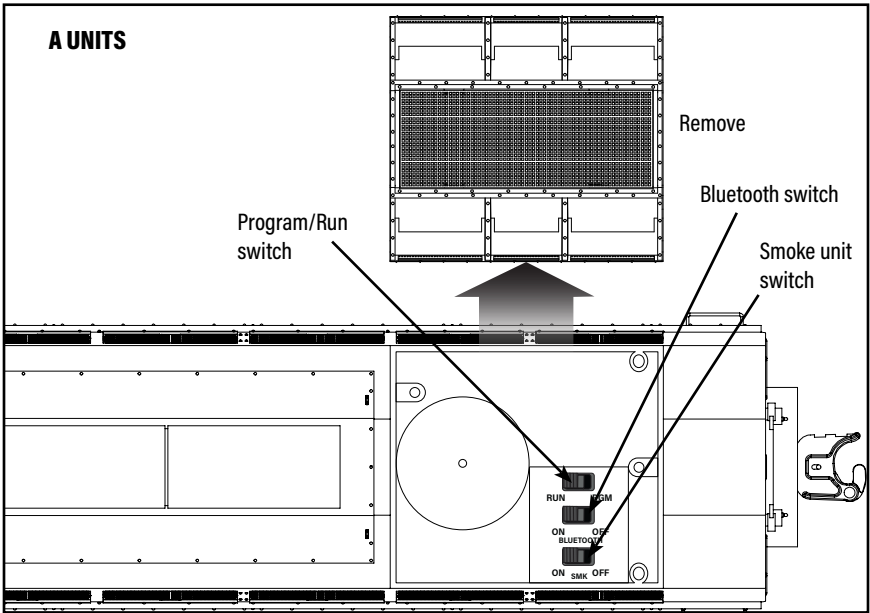

Figure 4a. Powered A Unit & Helper Powered A Unit Switch locations (under roof vents)
If you prefer to operate your locomotive set without smoke, locate the smoke unit switch on each locomotive and slide it to the NO SMK position. Refer to Figures 4a, 4b, and 4c on pages 10 through 11 for the location of these switches.
1. Slide the Program-Run switch on your locomotive to the PGM position. See Figure 4a on page 10.